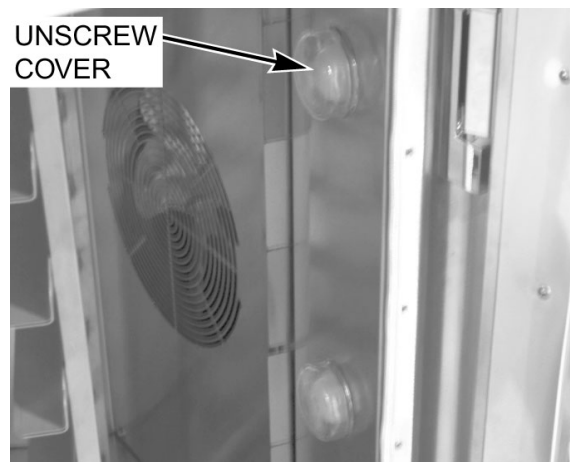

Fig. 4
- A. Twist lamp cover (Fig. 4) to disengage from lamp sockets and remove from socket.